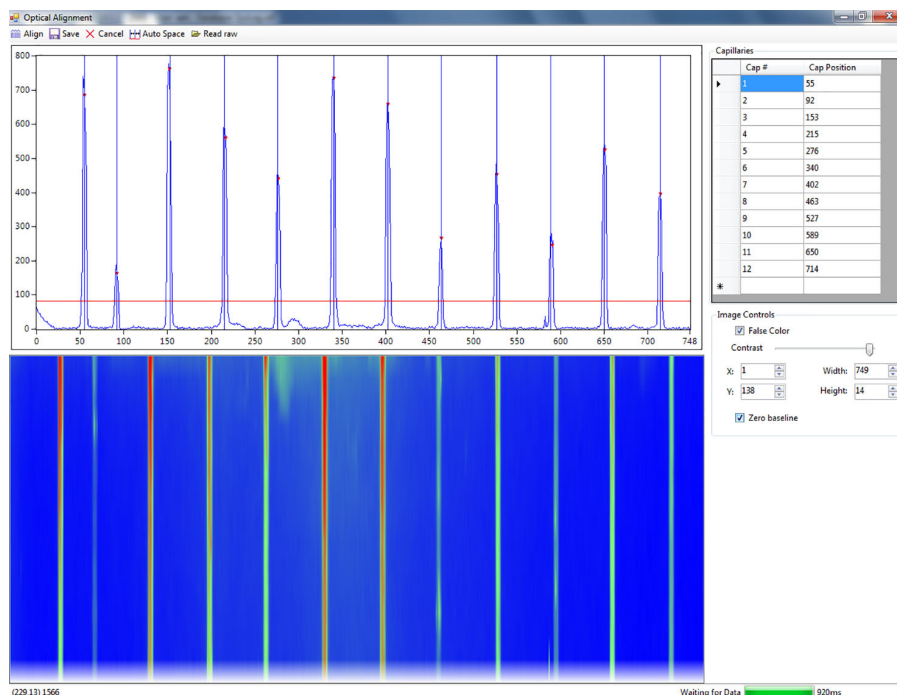

Figure 29 Real time capillary alignment popup window (example shows 12-capillaries)
This will open the real time view of the *Capillary Alignment* window (Figure 29).
- 7 Adjust the red baseline seen in **Figure 29** until a red dot is observed above each capillary peak. This determines which capillary peaks are selected. It is important to ensure this red line is above the baseline.